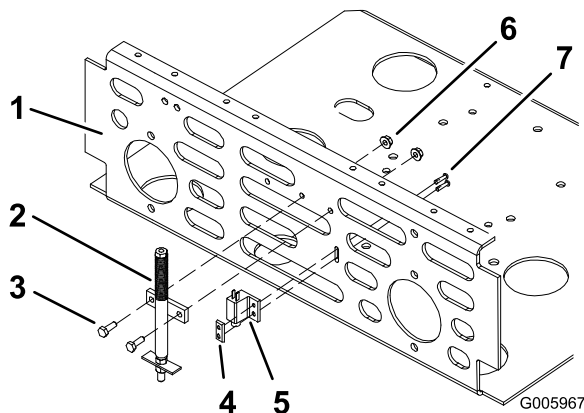

Figure 4
- Using the screws and the tapped plate, attach the switch to the vertical frame panel at the rear of the compartment under the seat as shown in Figure 4.
- Attach the Z200/500 actuator assembly to the vertical frame panel at the rear of the compartment under the seat (Figure 4) using the two bolts (1/4 x 3/4 inch) and two flange nuts (1/4 inch) included in the assembly.